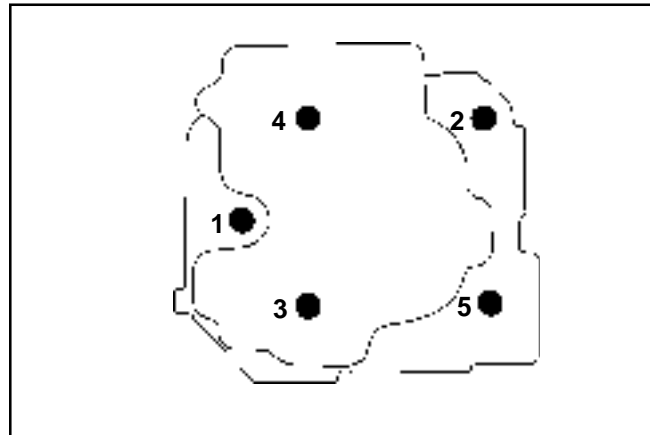

Figure 11-44. Cylinder Head Fastener Torque Sequence.
- b. Apply Loctite® No. 59241 thread sealant to the threads of two of the shorter (81 mm/3.1 in.) head bolts, and install them into location 3 and 4. See Figure 11-44.
- d. Determine the correct length head bolt for position 5, based upon the length of spacer used. If the spacer used is **27 mm (1.062 in.)** long, use a long (90 mm/3.5 in.) head bolt. If the spacer used is **17 mm (.669 in.)** long, use a shorter (81 mm/3.1 in.) head bolt. Insert the appropriate head bolt through the spacer and washer, and install it in position 5. See Figure 11-44.
- f. Following the sequence in Figure 11-44, torque the bolts to **20 N·m (15 ft. lb.)**. Then repeat the sequence to a final torque of **40.7 N·m (30 ft. lb.)**.